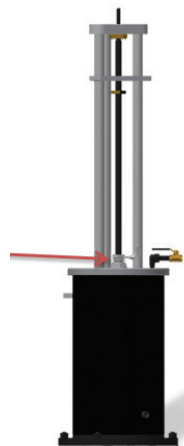

Figure 61
**5.0.21)** Lift the insertion housing vertically onto the alignment plate. Ensure packing nut thumb screw is loose and that cartridge is sitting flush against the cartridge alignment plate (see Figure 61).